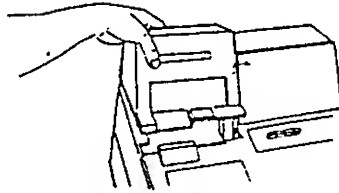

Fig. 1
2. Remove the Receipt Cover by pulling it upward (Fig. 1).
1. Remove the Receipt Cover by pulling it upward (Fig. 1).
2. Remove the Receipt Cover by pulling it upward (Fig. 1 on the previous page).
1. Remove the Receipt Cover by pulling it upward (Fig. 1 on the previous page).